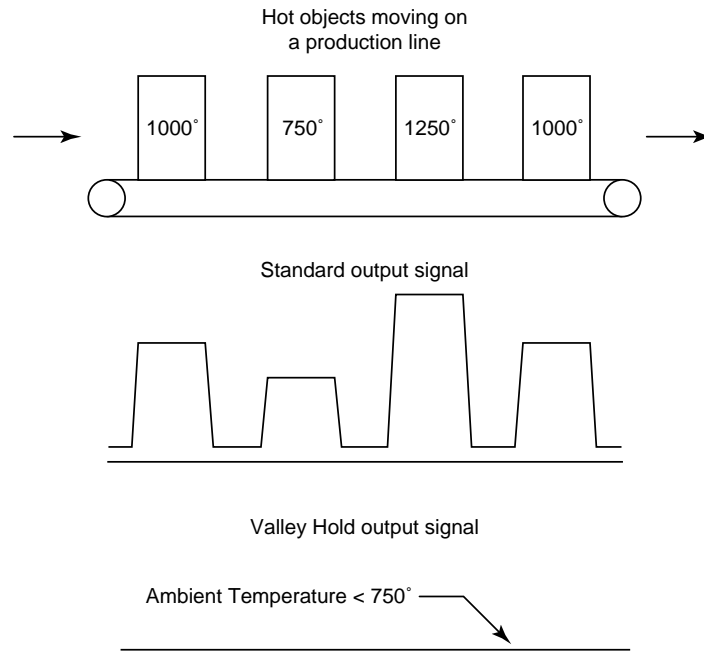

Figure 3-32: Valley Hold Example
With Valley Hold activated, the unit monitors the minimum temperature seen over the pretermined time interval. The algorithm may be described as being exactly the reverse of that for the Peak Hold, in that it monitors the lowest rather than the highest temperature seen. The duration time is changed by the ▲ (UP) and ▼ (DOWN) buttons. Figure 3-32 illustrates the Valley Hold output signal.